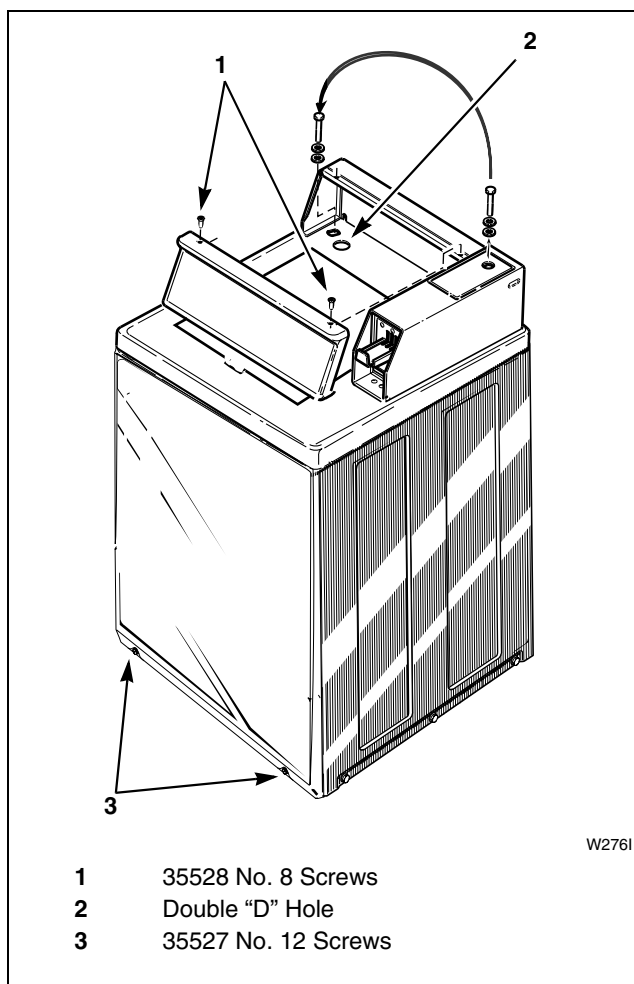

Figure 19
1. Remove the Phillips head screw from service door (refer to *Figure 19*).
2. Remove two screws holding control panel to control hood (refer to *Figure 19*).
4. Insert Phillips head screw down through double "D" hole in left rear corner of cabinet top (inside control hood) until it engages retainer nut located on left rear corner gusset of cabinet (refer to *Figure 19*).